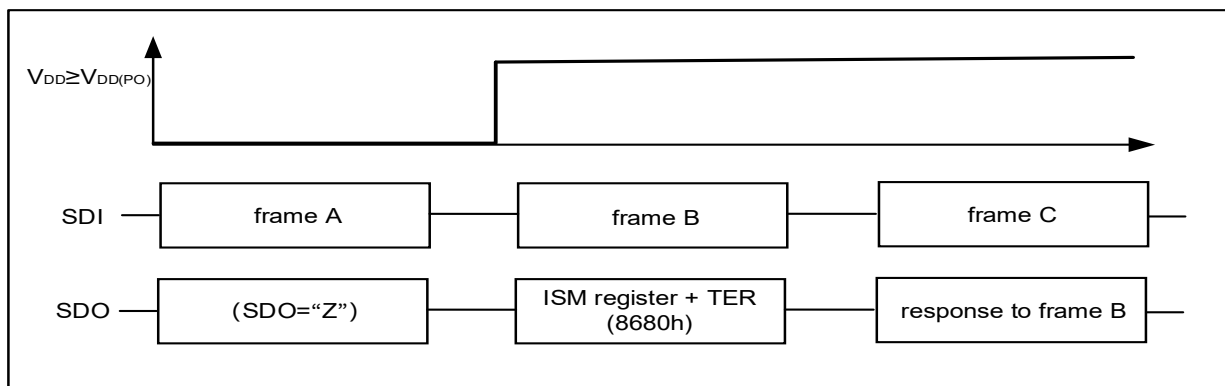

Figure 10.9 NSD56080 response after coming out of Power-On reset at V_{DD}
- When NSD56080 logic supply comes out of Power-On reset condition or after a Software Reset, as shown in **Figure 10.9**